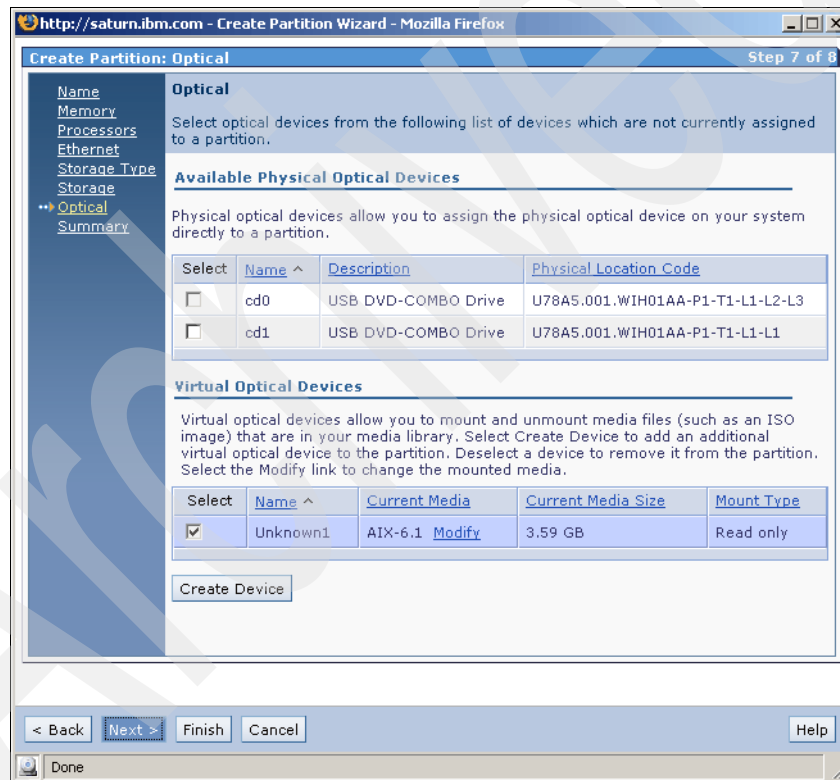

Figure 4-24 Create partition - virtual optical device
13. Click **Next** to see an overview of the setting of the new partition. See Figure 4-24.